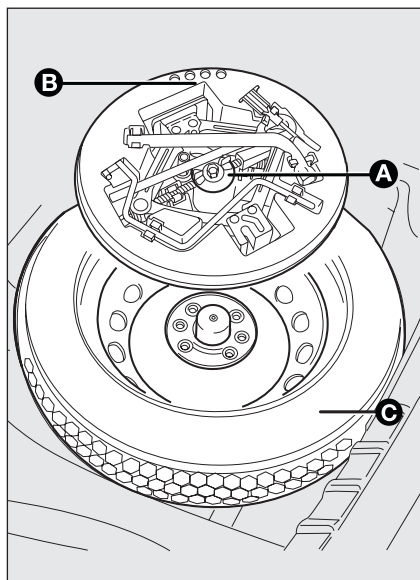

fig. 11
- ☐ Loosen the fastener **A-fig. 11**;
- ☐ Stow the spare wheel **C-fig. 11** in the space provided in the boot;
- ☐ Insert the jack partially open in its container **B-fig. 11** forcing it lightly to prevent it from vibrating when travelling;
- ☐ Stow the container complete with tools on the spare wheel and secure everything with the clamping device **A-fig. 11**;